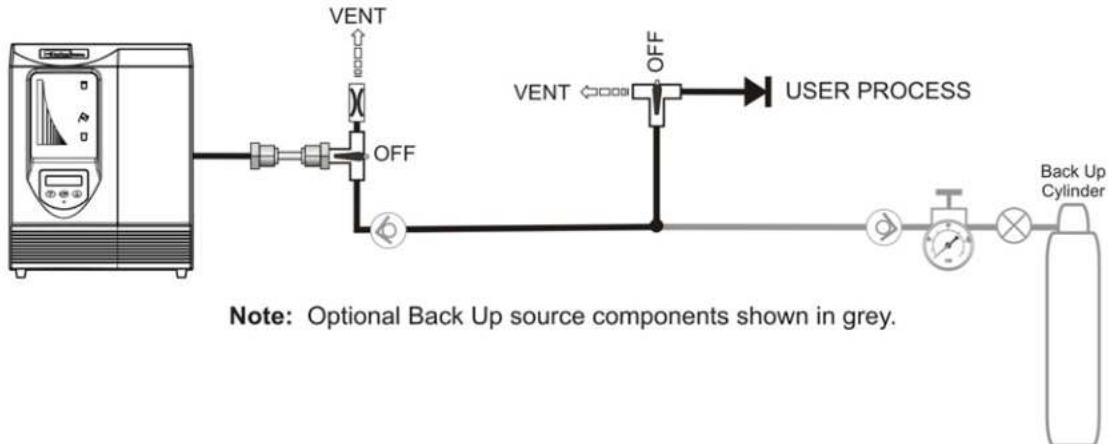

Figure 3
The installation kits shown in table 7 will allow for installations as shown in figure 3. Please contact your local Parker Hannifin office for more details.
- 1 Referring to the recommended set up (figure 3), use the 3-way ball valve to isolate the application instrument from the system and divert the flow to the vent line.